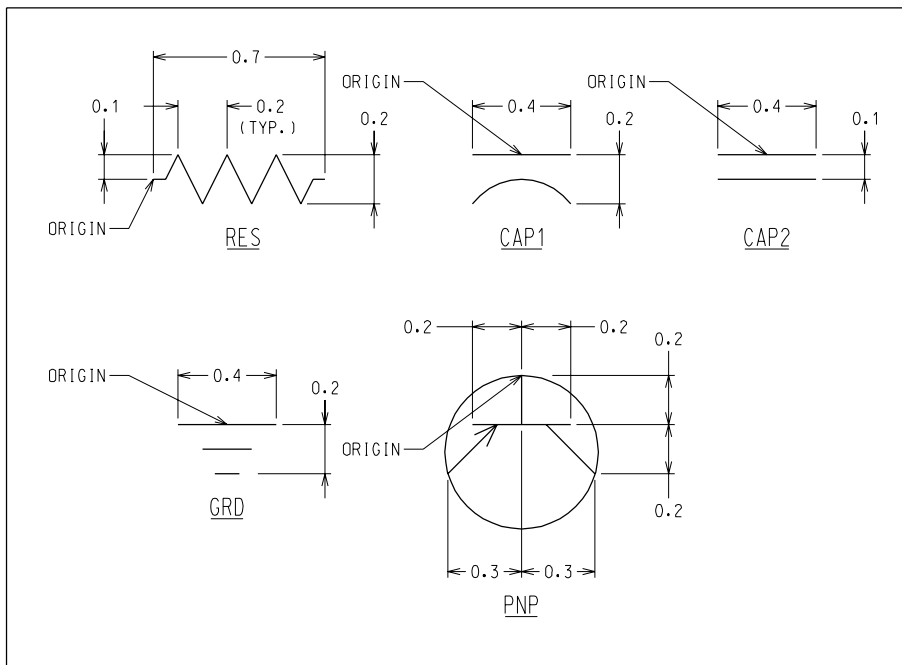

Figure P11-4 Electronic symbols
- Define a cell origin at the left end of the resistor, as indicated in Figure P11-4.